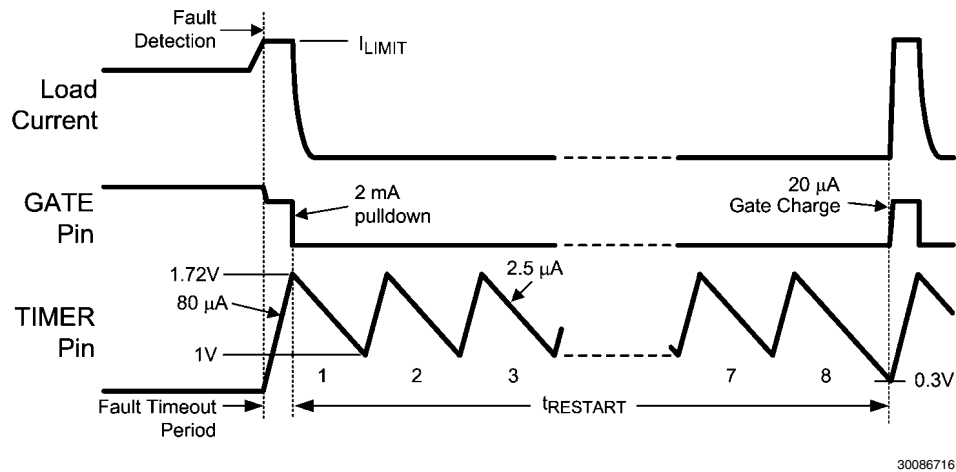

FIGURE 5. Restart Sequence (LM25069-2)
When the current limit or power limit threshold is reached during turn-on or as a result of a fault condition, the gate-to-source voltage of Q1 is modulated to regulate the load current and power dissipation in Q1. When either limiting function is activated, an 80 μA fault timer current source charges the external capacitor (C_T) at the TIMER pin as shown in Figure 5 (Fault Timeout Period). If the fault condition subsides during the Fault Timeout Period before the TIMER pin reaches 1.72V, the LM25069 returns to the normal operating mode and C_T is discharged by the 2.5 μA current sink. If the TIMER pin reaches 1.72V during the Fault Timeout Period, Q1 is switched off by a 2 mA pull-down current at the GATE pin. The subsequent restart procedure then depends on which version of the LM25069 is in use.
The LM25069-2 provides an automatic restart sequence which consists of the TIMER pin cycling between 1.72V and 1V seven times after the Fault Timeout Period, as shown in Figure 5. The period of each cycle is determined by the 80 μA charging current, and the 2.5 μA discharge current, and the value of the capacitor C_T . When the TIMER pin reaches 0.3V during the eighth high-to-low ramp, the 20 μA current source at the GATE pin turns on Q1. If the fault condition is still present, the Fault Timeout Period and the restart cycle repeat. The Fault Timeout Period during restart cycles is approximately 18% shorter than the initial fault timeout period which initiated the restart cycle. This is due to the fact that the TIMER pin transitions from 0.3V to 1.72V after each restart time, rather than from ground.
C) Restart Timing For the LM25069-2, after the Fault Timeout Period described above, C_T is discharged by the 2.5 μA current sink to 1.0V. The TIMER pin then cycles through seven additional charge/discharge cycles between 1V and 1.72V as shown in *Figure 5*. The restart time ends when the TIMER pin voltage reaches 0.3V during the final high-to-low ramp. The restart time, after the Fault Timeout Period, is equal to: